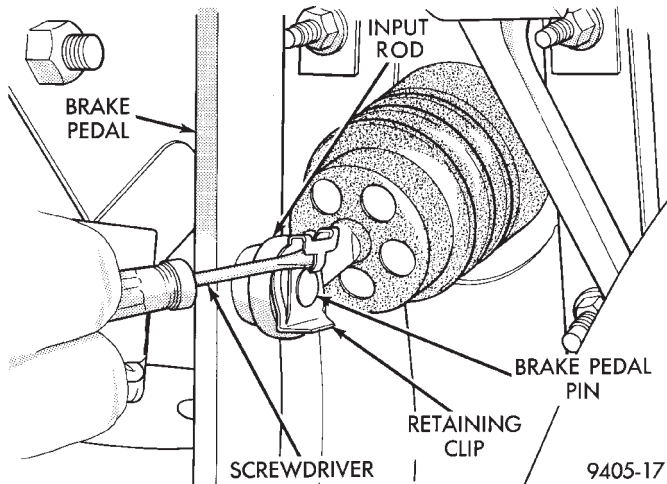

Fig. 62 Input Rod Retaining Pin
(10) Locate the power brake vacuum booster input rod to brake pedal attachment under instrument panel. Position a small screwdriver between the center tang on the power brake booster input rod to brake pedal pin retaining clip (Fig. 62). Rotate screwdriver enough to allow retaining clip center tang to pass over end of brake pedal pin. Then pull retaining clip off brake pedal pin. **Discard retaining clip. Replace only with a new retaining clip when assembled.**